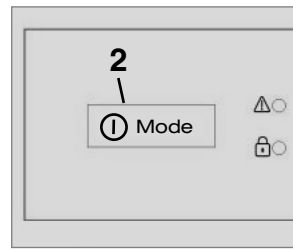

Fig. 31
- Press the **"MODE"** button to switch off MES and AES models. Keep button **"2"** pressed for 2 seconds. The display disappears and the appliance is fully switched off (Fig. 31).